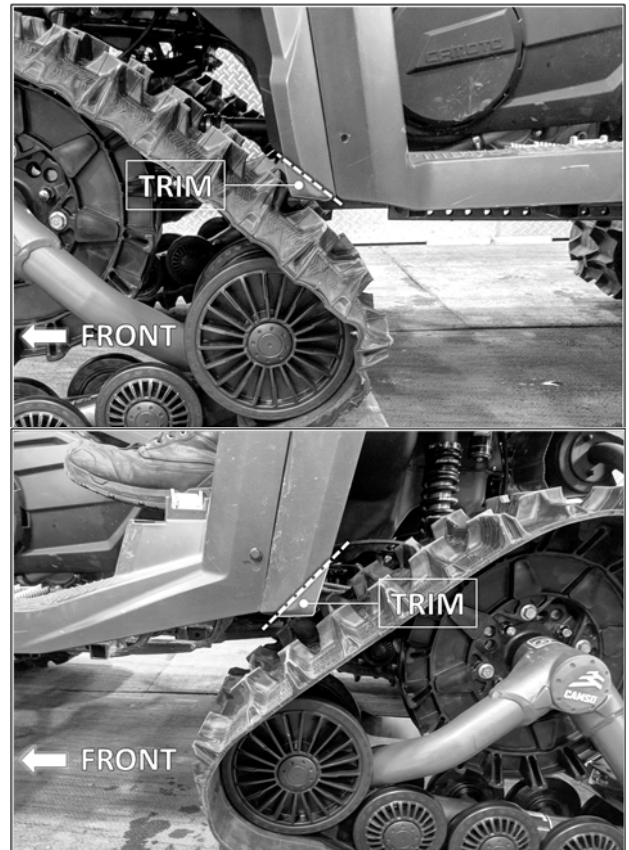

Fig. 19
1. To prevent any possible contact between the undercarriages and the fenders, the lower corners of the fender flares should be trimmed. These modifications will help to avoid damages to the vehicle and the Track System. See Fig. 19